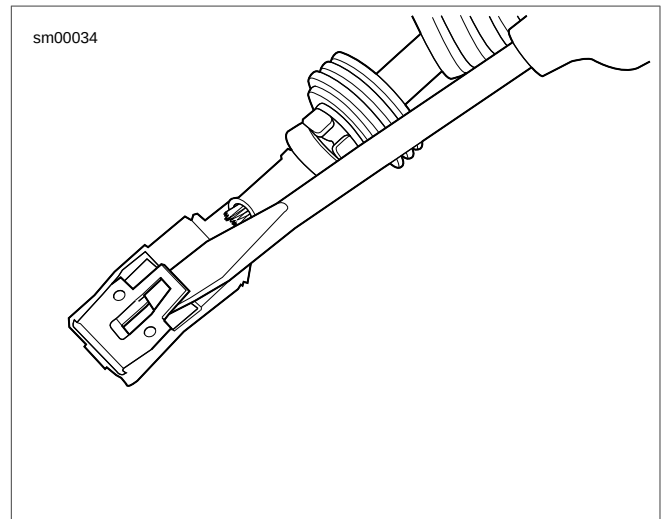

Figure A-14. Delphi Main Fuse Housing: Bend Tang
1. See Figure A-14. Carefully bend tang outward away from the terminal body.